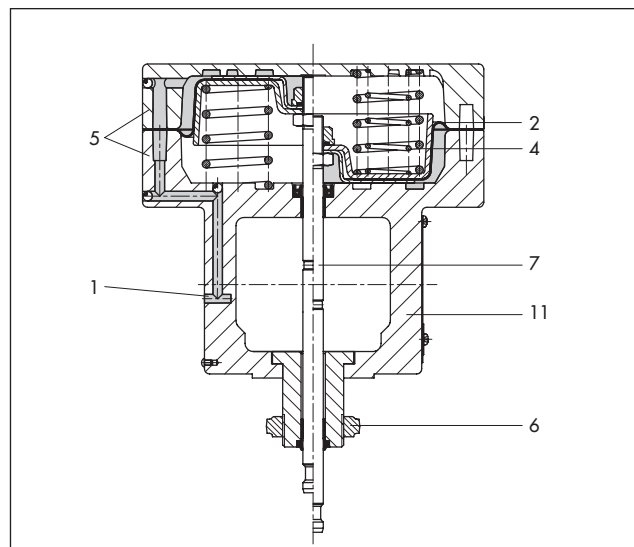

Fig. 8 · Type 3277-5
- **Type 3277-5** · Diaphragm area 120 cm2, die-cast aluminum body for direct attachment of accessories (Fig. 8)